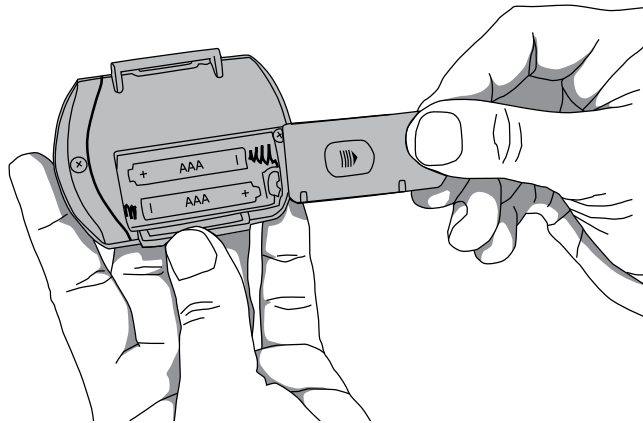

Figure 4: Remove Battery Door
1. Open the battery compartment by sliding the battery door off the back of the device (figure 4).